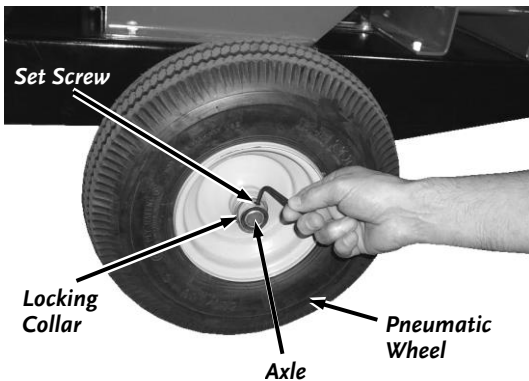

Figure 60
2. Loosen the Set Screw and remove the Locking Collar (**Figure 60**).